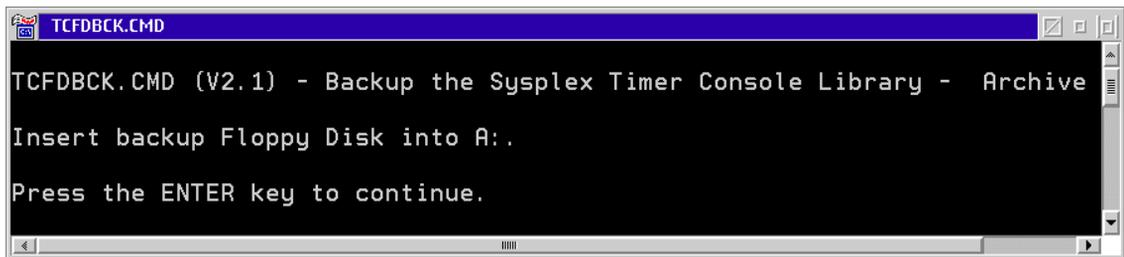

Figure 62 TCFDBCK.CMD Window
8. To back up sysplex timer console library files at the *OS2TOOLS - Icon View*, double-click the *TCFDBCK.CMD* icon. The *TCFDBCK.CMD* window displays (Figure 62).